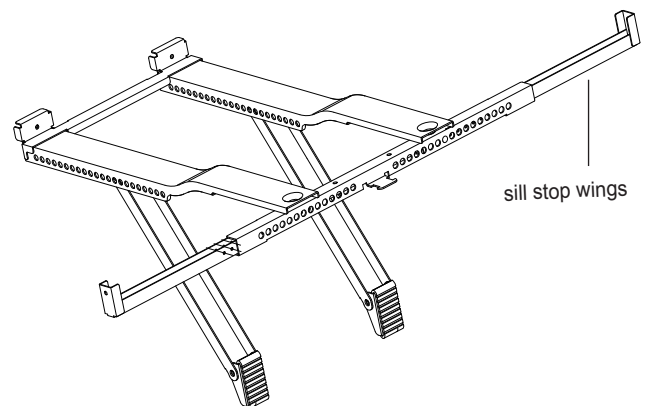

Fig.3
C. Prepare Sill Stop Wings: slide wings(left and right) onto frame.See Fig.3